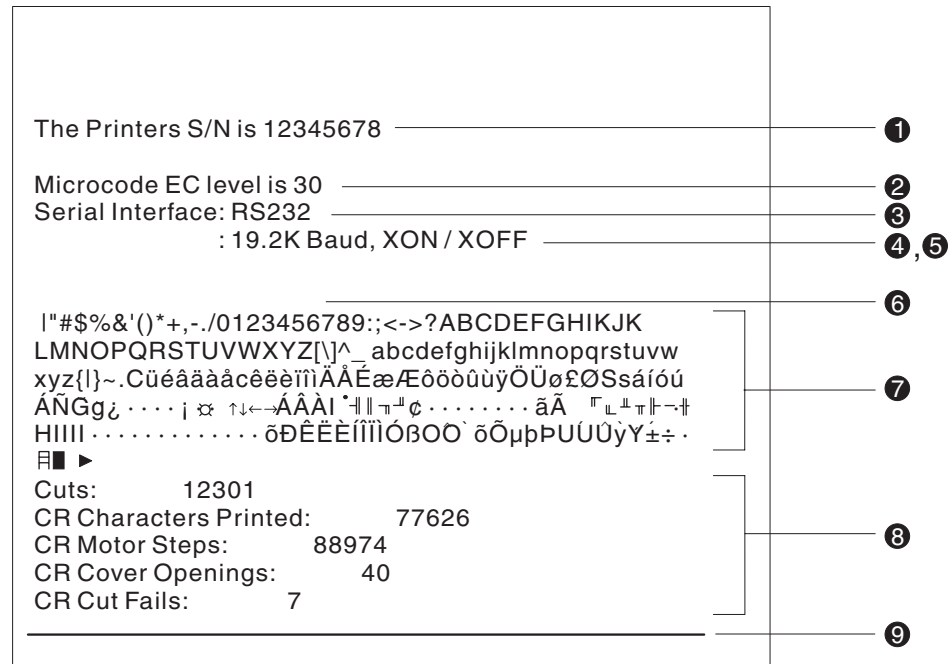

Figure 43. Offline printer test pattern (Models TF6 and TM6)
5. See Figure 43 on page 77 and verify that your printer has printed correct information for your model and configuration:
If any characters that appear in Figure 43 on page 77 are missing from the test pattern you print, or if the solid line is missing, go to Table 4 on page 78.